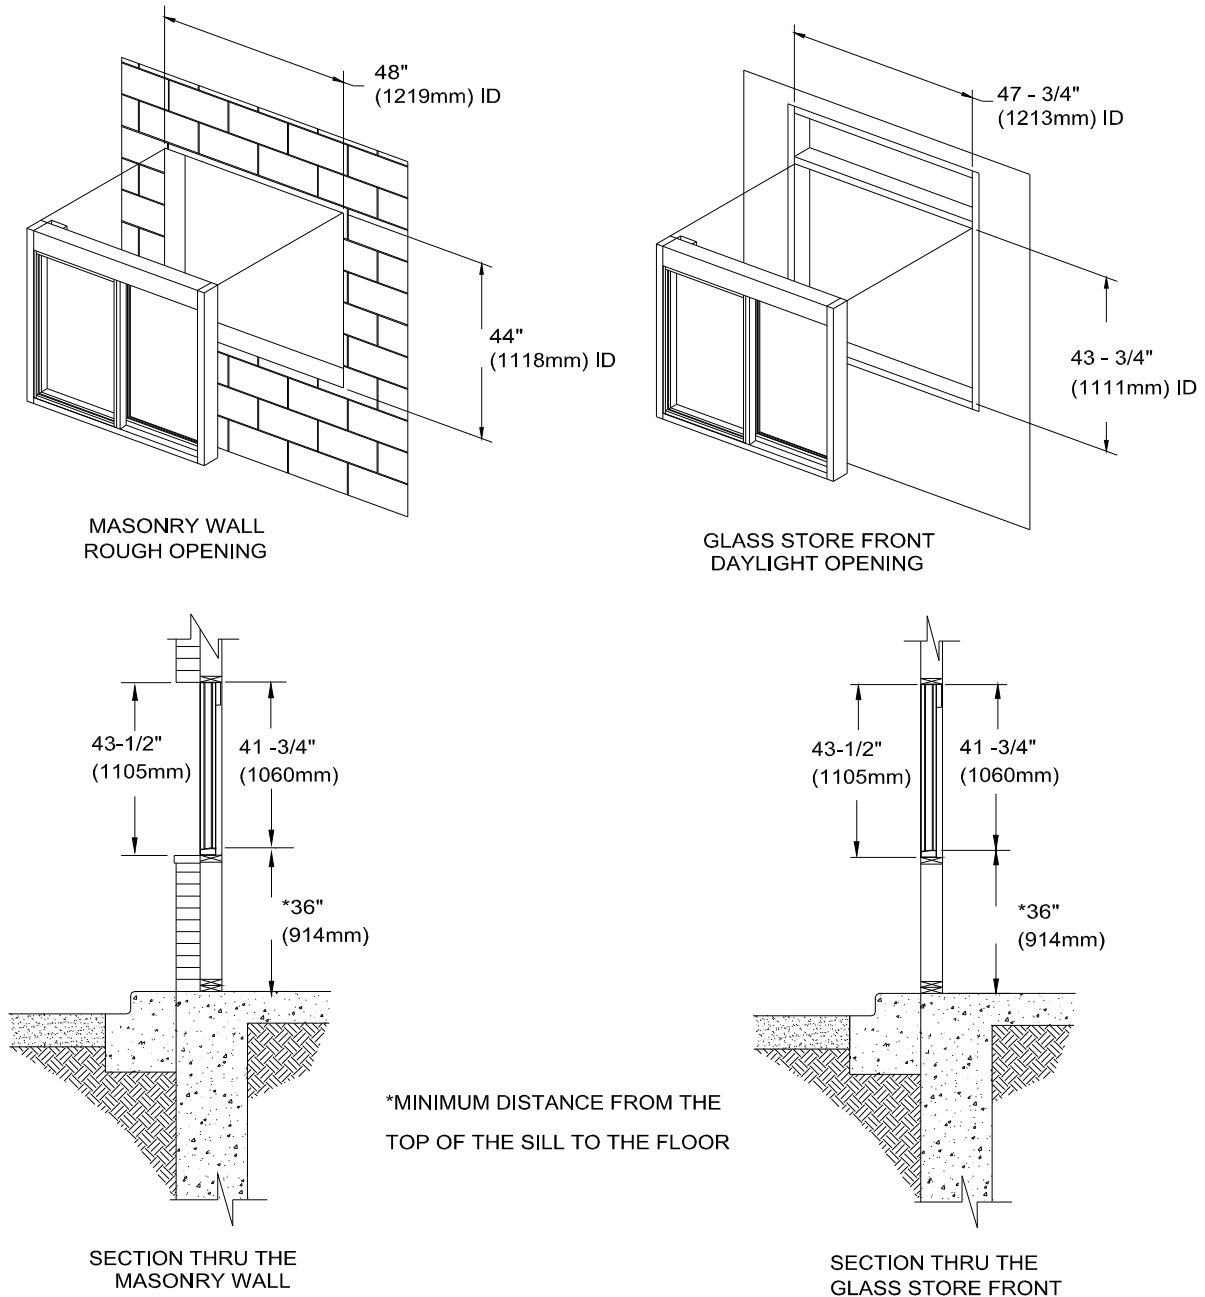
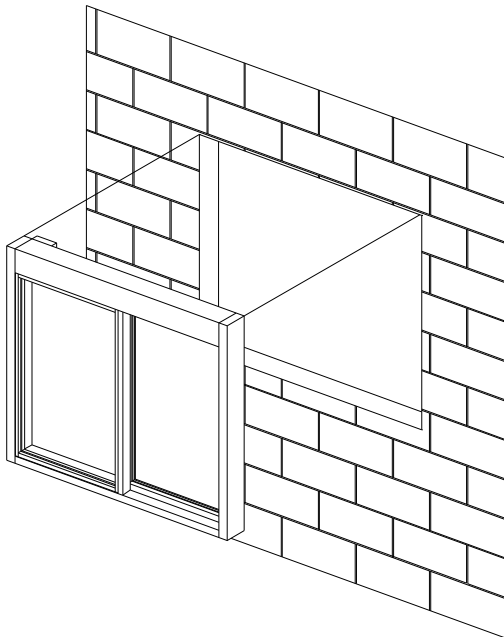

FIGURE 2
Figure 3
NOTE: There are two wall-mounting applications. The mounting space can be surrounded either by sidelights (windows) or masonry. In both cases the upper part of the window above the counter top (window sill) fits flush with the outside of the wall. (See Figure 2) The illustrations will show the walls with the sidelights, as this is the most common application. (Figure 3 and 4)
NOTE: If mounting the window in a masonry wall the window mounts flush with the outside finishing of the building. Drill points are scribed directly into the masonry. The outside edge of the mullion should be flush with the outside finishing of the building. (See Figure 3 and 4)
5. Position the window and place it into the customer-supplied frame. As shown in Figure 3 and 4